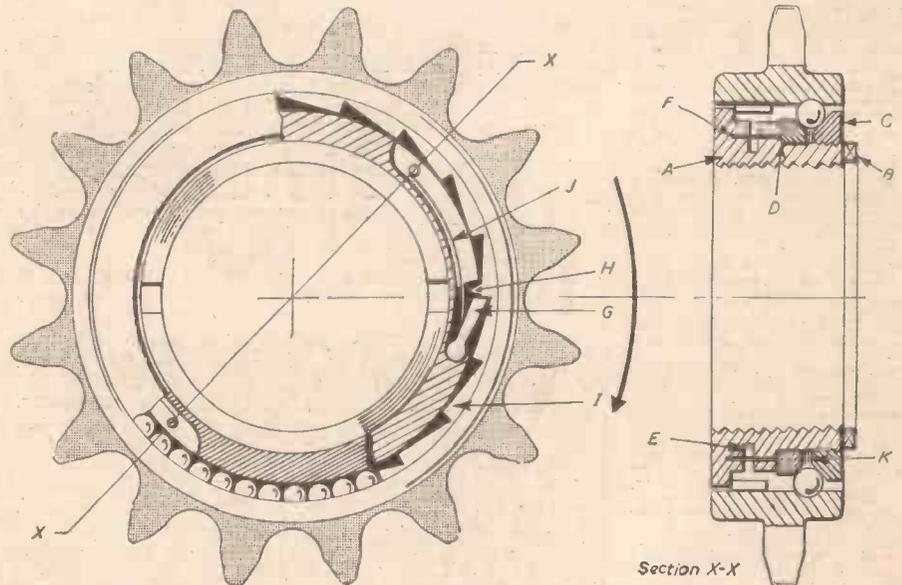

Fig. 2.—A freewheel cut away to show assembly and a sectional view.
A standard type of freewheel is shown diagrammatically in Fig. 2 and a sectional view also shown. (A) is the body of the freewheel and (B) indicates the notches used for removing it from the hub. The outer half of the ball race (the front ring) is lettered (C) and the inner half of the race, which simply drops into position, is shown at (D). The slots in which the pawl springs lay are lettered (E) and the pin for anchoring them (F). (G) indicates the actual pawl and (H) is a cutaway portion of the freewheel body in which the pawl rests. (I) indicates the ratchet teeth and (J) the pawl spring. (K) shows the position of one or more thin packing washers which are inserted between the two halves of the race.
As can be seen from Fig. 2, the springs keep the pointed or driving ends of the pawls pressed into the vertical sides of the ratchet teeth and when the sprocket is turned in a clockwise direction by the action of pedalling, the drive is transmitted to the hub. When pedalling stops, however, the outside part of the hub is held stationary by the chain and the body part of the freewheel